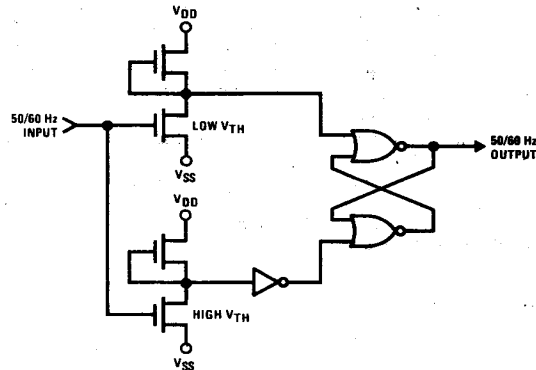

FIGURE 3. 50/60 Hz Input Shaping Circuit
**50 or 60 Hz Input:** A shaping circuit (*Figure 3*) is provided to square the 50 or 60 Hz input. This circuit allows use of a filtered sinewave input. The circuit is a Schmitt trigger that is designed to provide about 0.8V hysteresis. A simple RC filter such as shown in *Figure 7*, should be used to remove possible line-voltage transients that could either cause the clock to gain time or damage the device. The shaper output drives a counter chain which performs the timekeeping function.